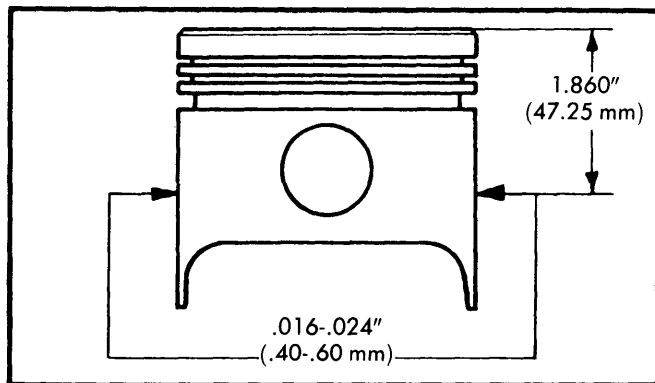

Fig. 6 Measuring Piston Diameter
1) Visually inspect pistons for signs of seizure or scoring. Remove rings and set aside in proper location for later installation (if not to be replaced). Measure outside diameter of pistons at a point 1.86" (47.25 mm) below piston crown and at right angles with piston pin bore. See Fig. 6.